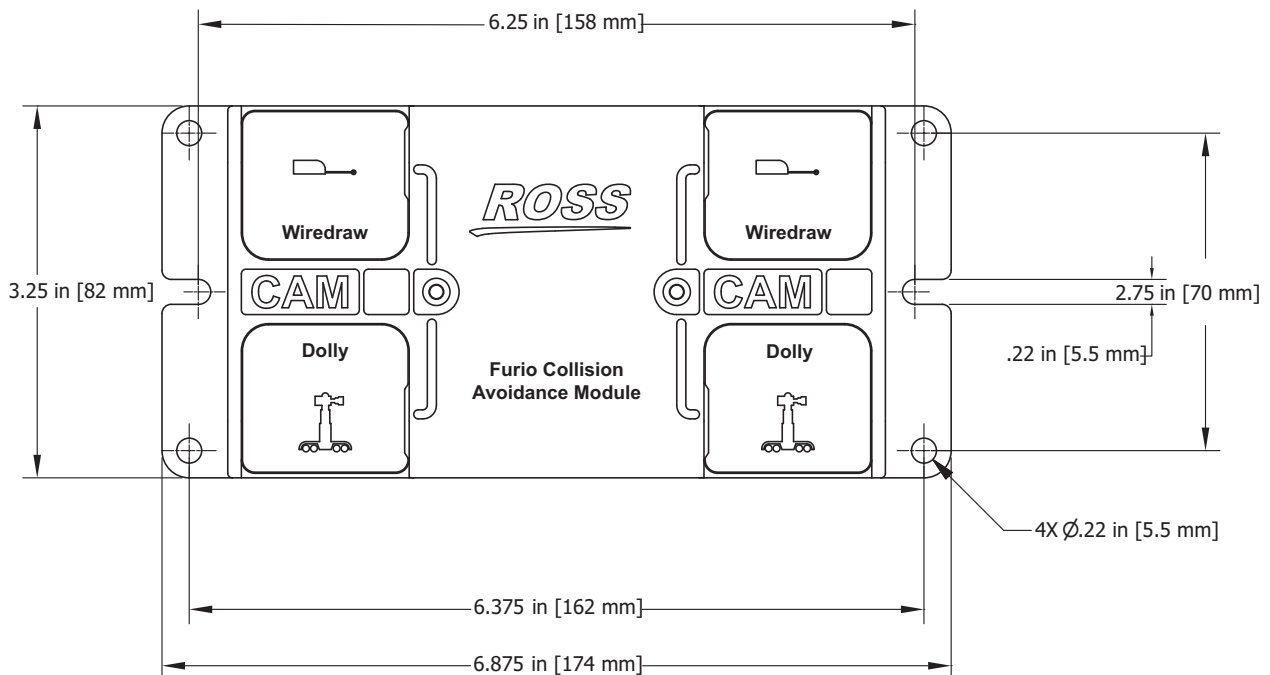

Figure 3.17 Mounting diagram showing the two end notches and four corner holes
2. Referring to the mounting diagram **Figure 3.17**, determine where to install the fasteners.